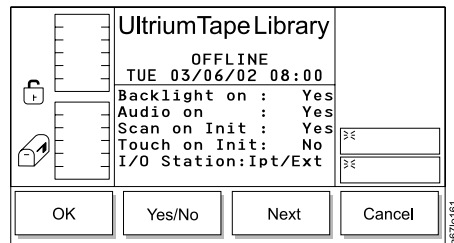

Figure 228. Config Dialog
4. Press the button below the **Config** softkey. The Config Dialog displays (see Figure 228) with the following information: